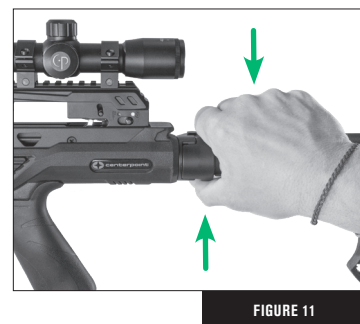
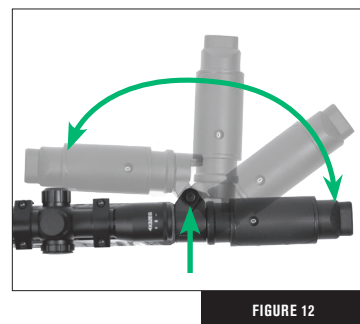

FIGURE 11
FIGURE 12
**To adjust the folding stock** (Part T), position your right hand as shown in Fig. 11. Apply pressure with the thumb of your right hand to the bottom of the hinge (Part 25) Fig. 11 while pushing down on the top of the butt-stock (Part 23). This will allow the butt stock to be folded into the closed position as shown in figure 12.
With the crossbow aimed in a safe direction and an arrow loaded, slide the safety switch (Part 20) forwards until you hear and feel the safety switch click off. The safety is disengaged and the crossbow is ready to be cocked or fired when the safety switch has moved from under the (S)AFE position and the white dot, to under the (F)IRE position and the red dot, as illustrated in Figure 11 on page 4.
**CAUTION:** DO NOT USE THE COCKING PREPARATION SWITCH (PART 3) TO DISENGAGE THE SAFETY IF THE CROSSBOW IS COCKED OR YOU WILL TURN OFF THE ANTI-DRY FIRE MECHANISM. ONLY USE THIS SWITCH TO DISENGAGE THE SAFETY IF THE CROSSBOW IS SET TO (S)AFE AND YOU WANT TO COCK THE CROSSBOW.